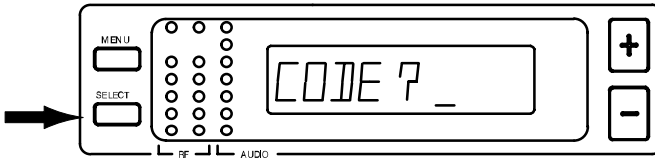

FIGURE 31
3. Press the SELECT button. The “CODE?” display appears, as shown in Figure 31.